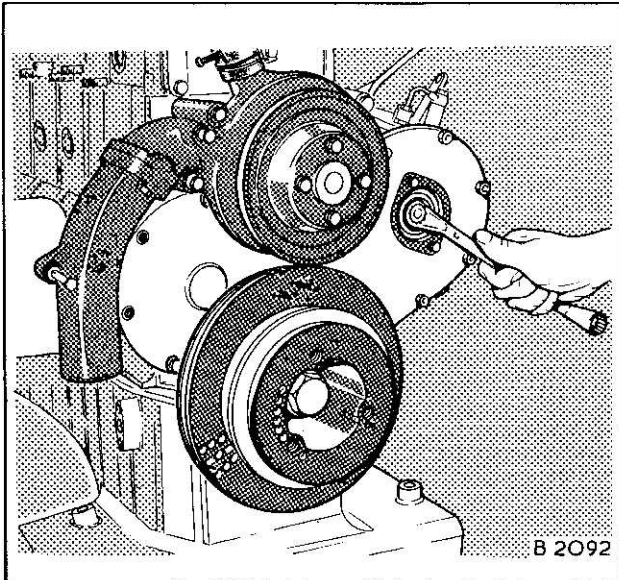

Fig. 4
6. Remove cover plate from timing cover and remove pump gear securing nut (Fig. 4).